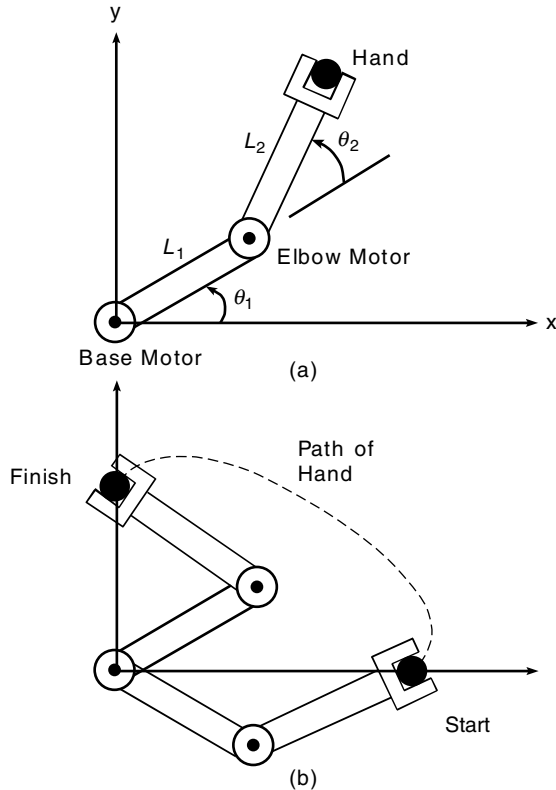

Figure P7
7. Figure P7 illustrates a robot arm that has two “links” connected by two “joints”—a shoulder or base joint and an elbow joint. There is a motor at each joint. The joint angles are  $\theta_1$  and  $\theta_2$ . The  $(x, y)$  coordinates of the hand at the end of the arm are given by